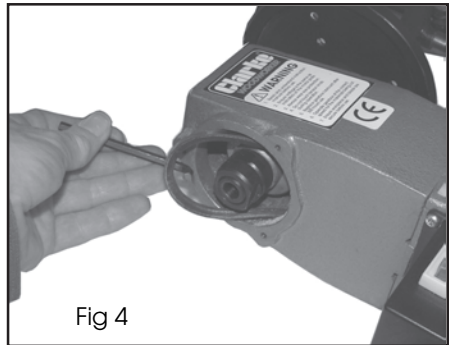

Fig 4
1. Undo the three screws (28) and remove the end cover (27).
2. Using the allen key supplied, loosen the bolts (39) to enable the motor to move and the drive belt to go slack.
3. Dismount the drive belt from the motor pulley (34) and then lift it off the drive pulley (31) towards you. Use the allen key to help you as shown in Fig 4. The belt can now be removed from the headstock frame.
4. Replacement is a reversal of the removal procedure. Tension the belt by hinging the motor downwards prior to tightening the bolts (39).